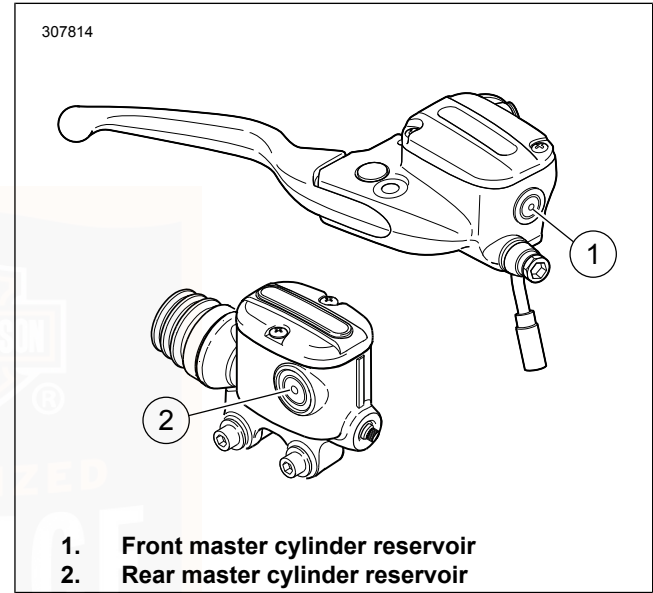

Figure 66. Sight Glass Minimum Marks
2. See Figure 66. View reservoir sight glass. Fluid level must be at or above the minimum mark on glass. If fluid level is below minimum mark, see a Harley-Davidson dealer.